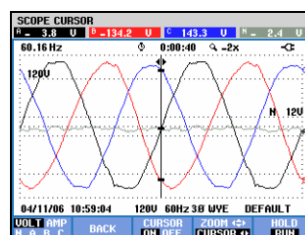

Figure 19-2. Waveform display, cursor on
- Press F3 to switch the Cursor on. Use the left/right arrow keys to move the Cursor horizontally along the waveforms. The value of the waveforms at the Cursor is displayed in the screen header as shown in Figure 19.2.